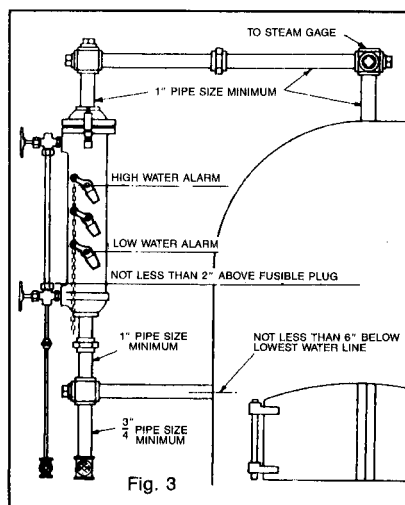

Fig. 3
**FIRE BOX BOILER:** As shown in Fig. 3, the fire box type of boiler should have the water connection to the water column enter at a point not less than 6" below the lowest water line or as near thereto as possible, and in no case less than 18" above the mud ring.